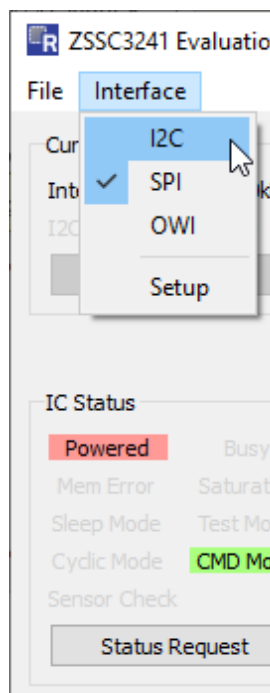

Figure 5. Selecting I2C Communication
| Figure 5. Selecting I2C Communication .....                | 6 |
1. Switch the digital interface to I2C from the Interface menu, see Figure 5.